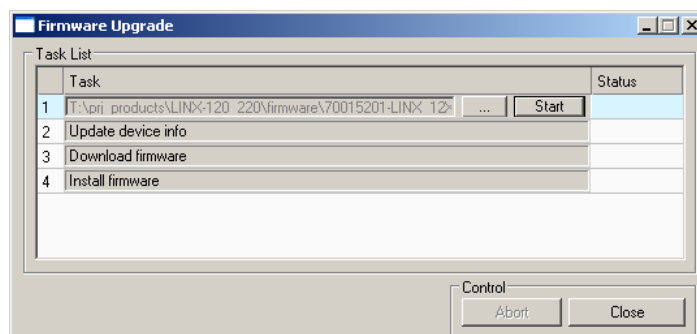

Figure 363: Firmware Update dialog of the Configurator.
8. This opens the **Firmware Update** dialog as shown in Figure 363. Click on the button  and select the firmware image.